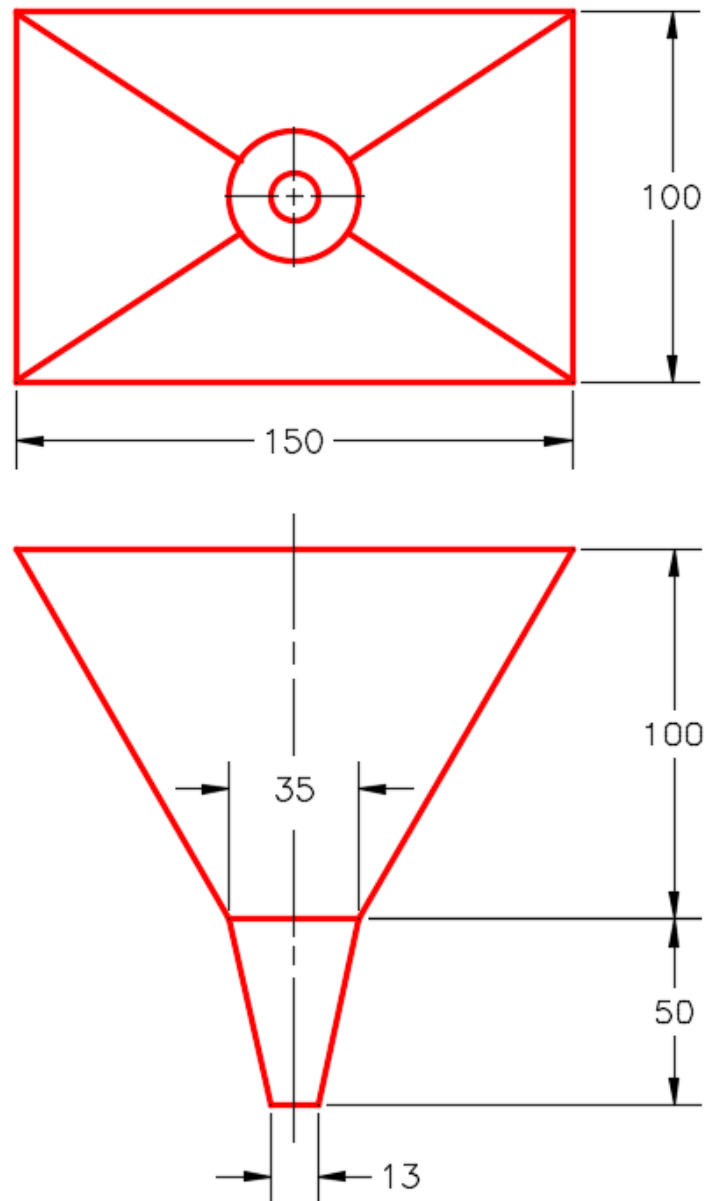

Figure Step 1
Step 1 On layer: Solid 3, draw a solid model of the object shown in the figure by drawing cross sections and then using the LOFT command. (Figure Step 1)